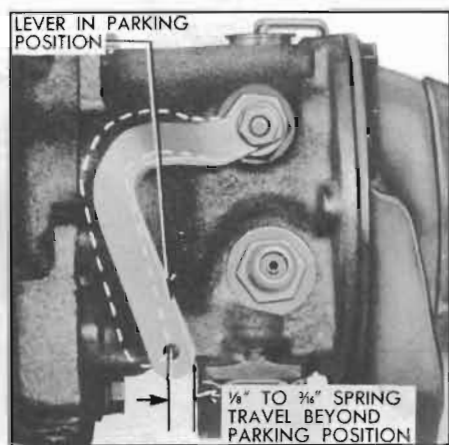

Figure 4-68—Spring Travel at Shift Lever
7. Check movement at lower end of transmission shift lever by pushing forward against spring pressure until a definite stop is felt. The spring travel or movement of lower end of lever should be $\frac{1}{8}$ " to $\frac{3}{16}$ " beyond the Parking (P) position. See figure 4-68. If spring travel is not within these limits the control valve operating rod in transmission is incorrectly adjusted and it will be necessary to remove the torque ball and adjust the operating rod as described in paragraph 4-38 (g).